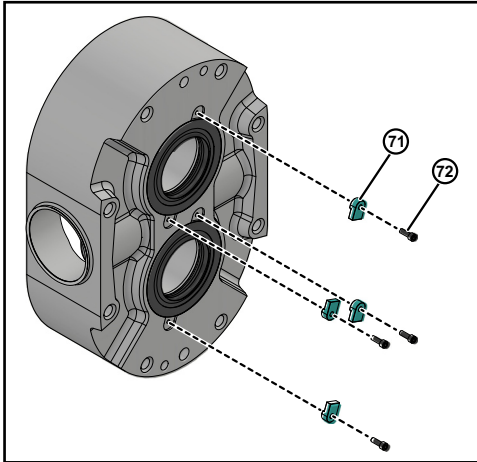

Figure 79 - Remove Screws and Retainer-tab
1. Remove all the retainer-tab bolts (72) and retainer-tabs (71) from the pump body, as shown in Figure 79. This is *applicable for model 006-130*.